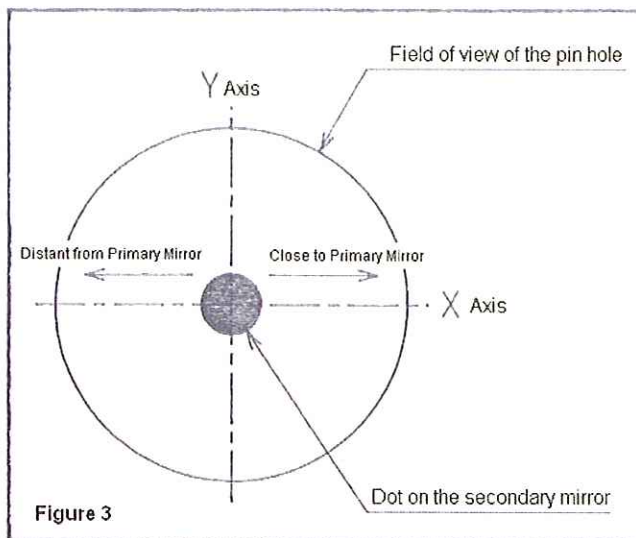

Figure 3
- Using a Sight tube or Cheshire eyepiece and attach it to the visual back of the focuser to look at the secondary mirror surface through the pin hole. You can see the dot on the secondary mirror shown in the Figure 3. Check if the dot moves up and down in the field of view of the pin hole when you move the secondary mirror holder to the left and right-hand direction a little. When it occurs, the dot may not be written in the center of the optical axis correctly. Return to the procedure 2.
- Assuming that cross hairs are put in the field of view shown in the Figure 3, check which side on the vertical Y axis of the imaginary cross hairs the dot can be seen. If the dot is just on the line of Y axis, you can proceed to next step. If the dot is seen on the left-hand side, it means that the secondary mirror is somewhat distant from the primary mirror. If the dot is seen on the right-hand side, it means that the secondary mirror is somewhat close to the primary mirror. Please make sure that you return all the washers to the same place as they are.